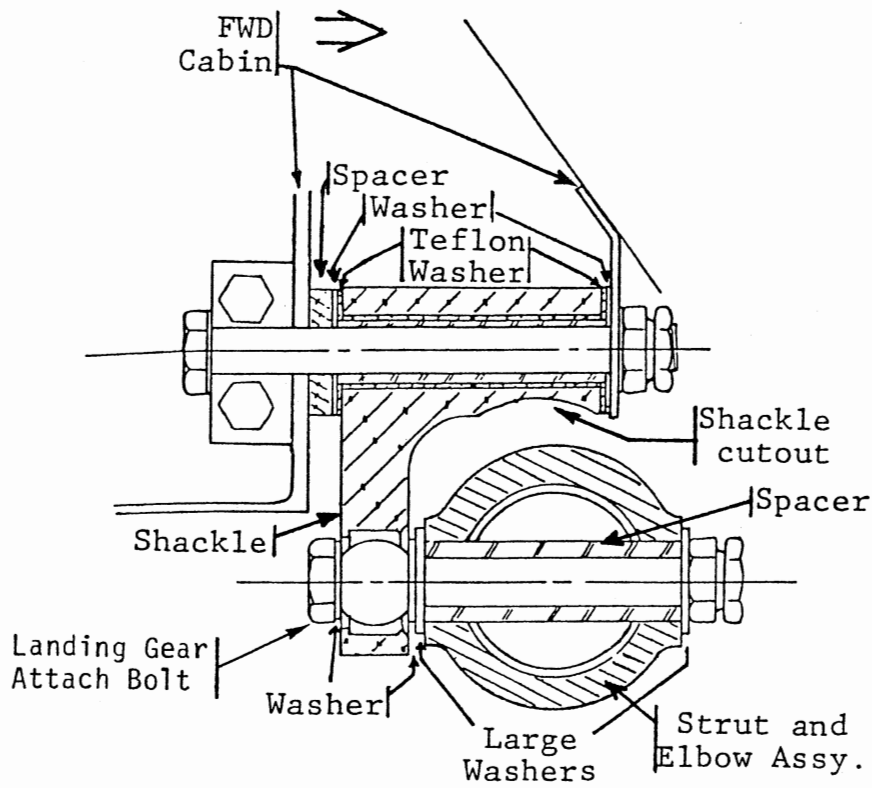

Figure 1 Shackle Assy (RT Front)
4. Re-connect landing gear to forward cabin mounts per Figure 1. Insure large area washers are installed on both sides of landing gear strut elbows.